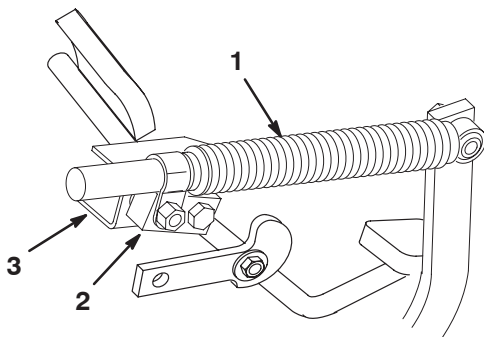

Figure 58
2. Loosen the locknut securing the damper pivot to the damper bracket (Fig. 58).